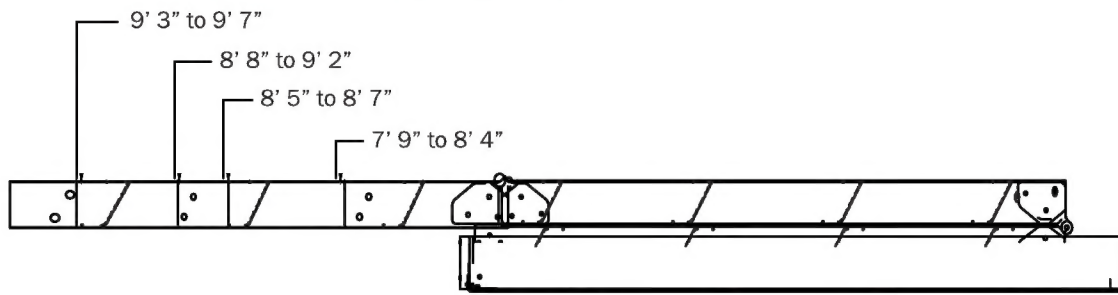

Figure 3
3. For models AA229GS & AA259GS, unfold the top section as shown in Figure 3.